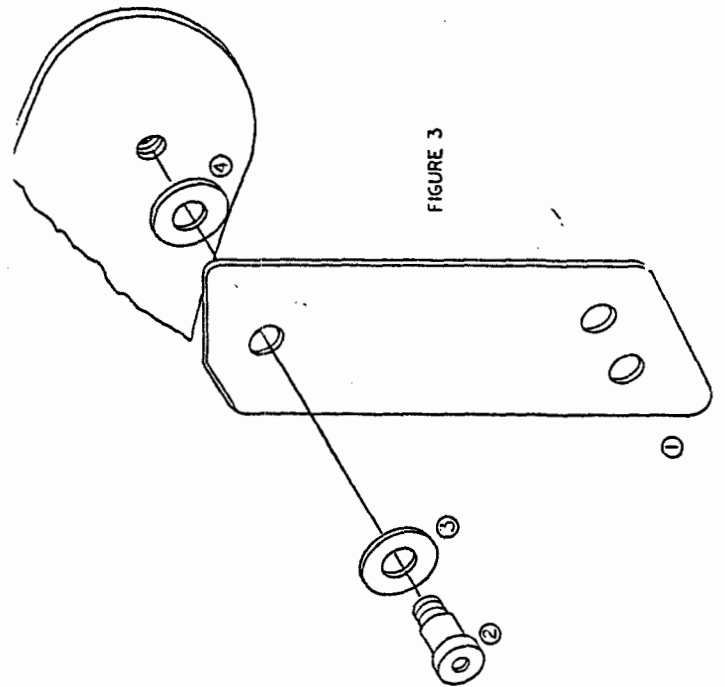

FIGURE 3
Locate the pivot arm (see figure 3, item 1) in the carton marked "arm kit". Position a 1/2" black flat washer (3) on one of the 1/2" shoulder bolts (2) and pass it through the clearance hole on the top portion of the pivot arm. Position a 3/8" black flat washer (4) so that it is between the 1/2" shoulder of the bolt and the end plate. and insert the bolt into the 3/8" threaded hole in the rear of the sunroof end plate. Tighten securely with the 1/4" allen wrench provided.